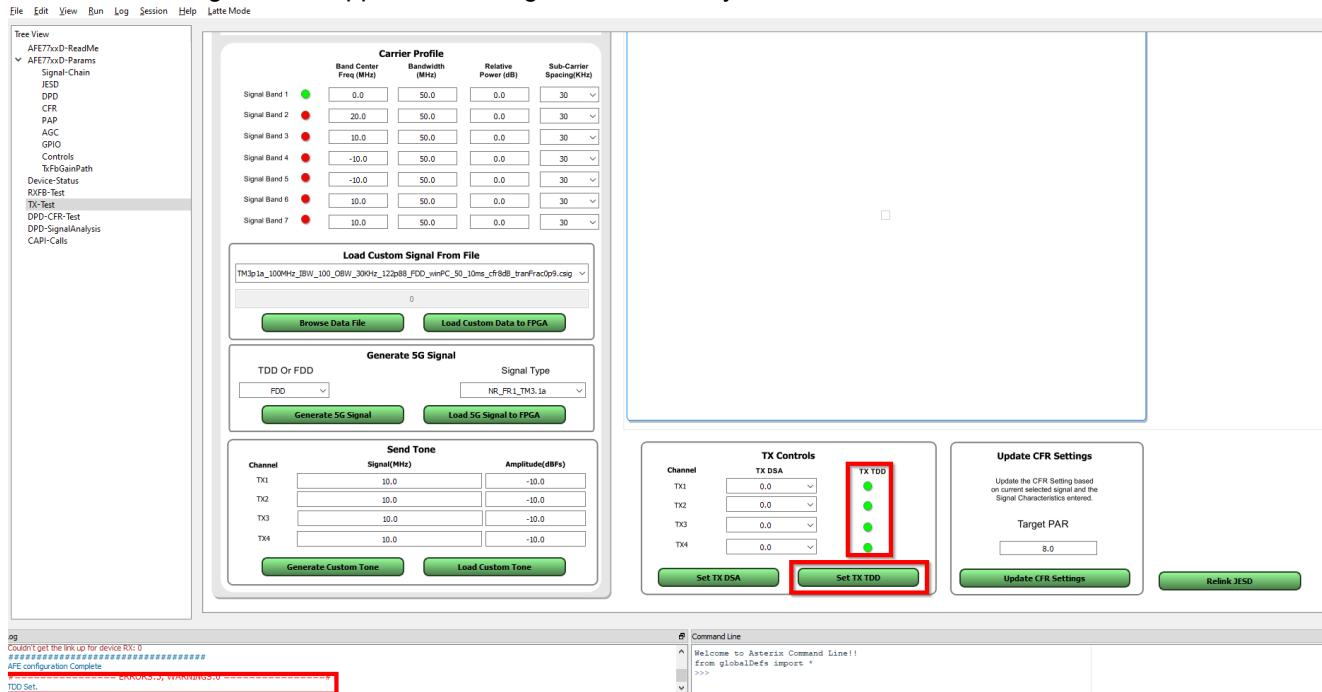

Figure 3-19. Enabling TDD Mode
12. Enable the TDD for the TX channels by setting them to green like in Figure 3-19. Then, click “Set TX TDD”, and a message should appear on the log window that says “TDD set”.